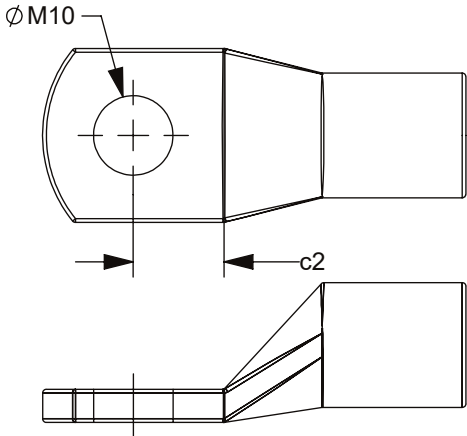

FIGURE 1
2. ASSEMBLE THE ISOLATED BOLT, M10 RING TERMINAL, & M10 ZCASE TO THE BASE ASSEMBLY. SECURE THE BOLT TO $16 \pm 2 \text{ N}\cdot\text{m}$. BE SURE THE RING TERMINAL DIMENSIONS MATCH THE FOLLOWING REQUIREMENTS (FIGURE 1):